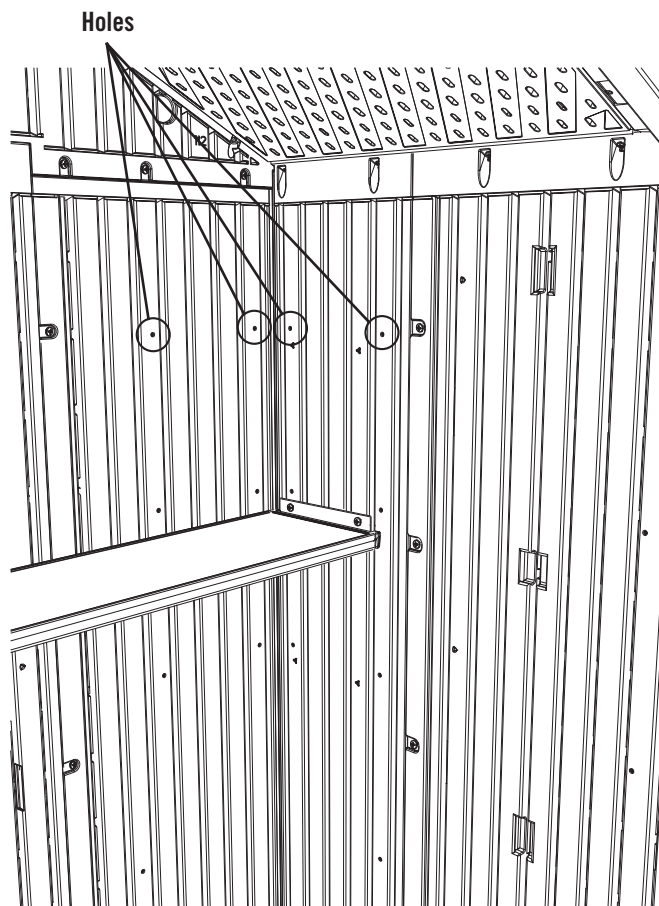

Fig. 1
Note the top set of pre-made holes in the Rear, Left Corner Wall Panel (fig. 1). Fold up edges of a **Corner Shelf (AFZ)**. Line-up holes in the Corner Shelf with the top set of pre-made holes in the Rear, Left Corner Wall Panel (Fig. 2). Secure with four (4) **1/4" x 5/8" Phillips Pan-Head Screws (ADZ)**. Repeat this step for each corner of the shed.